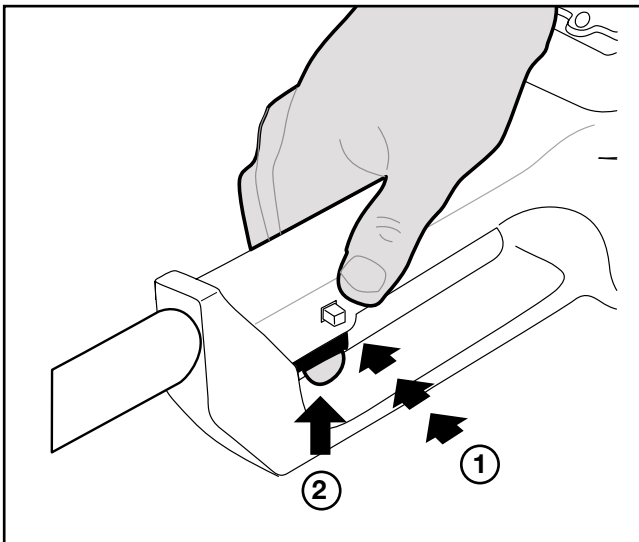

Fig. 11
1. Push in the safety release switch (Fig. 11).
2. Squeeze the trigger to start the trimmer. Release the trigger to stop (Fig. 11).